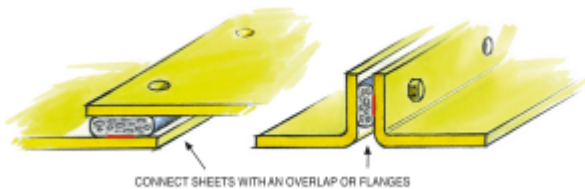
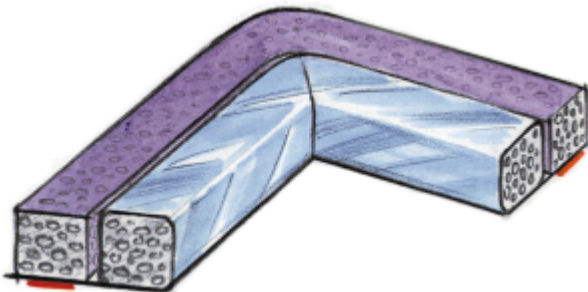

Figure 26.1: Examples of right dimensions and a stiff construction to prevent openings
Figure 26.2: An EMI gasket combined with an environmental seal can prevent corrosion and water coming into the device
- It has the right dimensions (fig. 26.1) **32**
- The construction is stiff enough (fig. 26.1) **41 / 44**
- It is and will remain free of corrosion (fig. 26.2) **33**
28 To reduce cost, the connection can be improved by using a conductive gasket, which will fill in any gaps. A gasket can also be used to seal against water or to meet other IP demands. (fig. 26.1) (fig. 26.2).